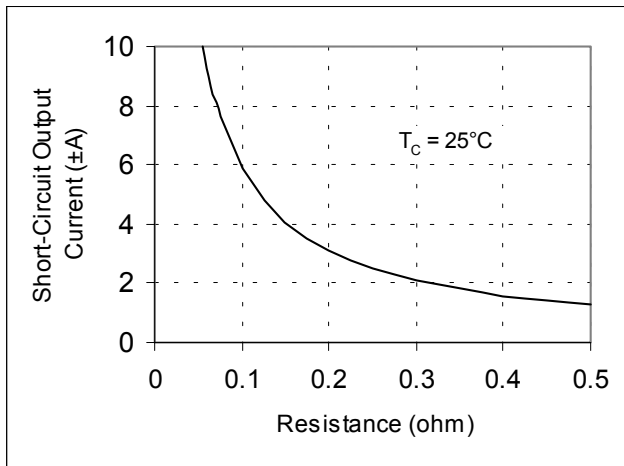

Figure 1. Typical Short-Circuit Output Current Case vs. Current Limiting Resistors ( $\pm R_{CL}$ )
3. It is recommended that external current limiting resistors ( $\pm R_{CL} \geq 0.068\ \Omega$ ) be used to ensure that 10 A is not exceeded. See Figures 1, 2 and 4 for  $R_{CL}$  application information.